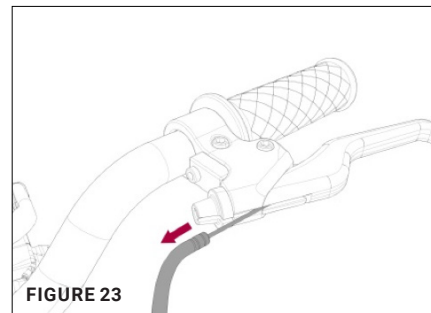

FIGURE 23
5. Unlock the brake cable from the lever. [Figure 23]